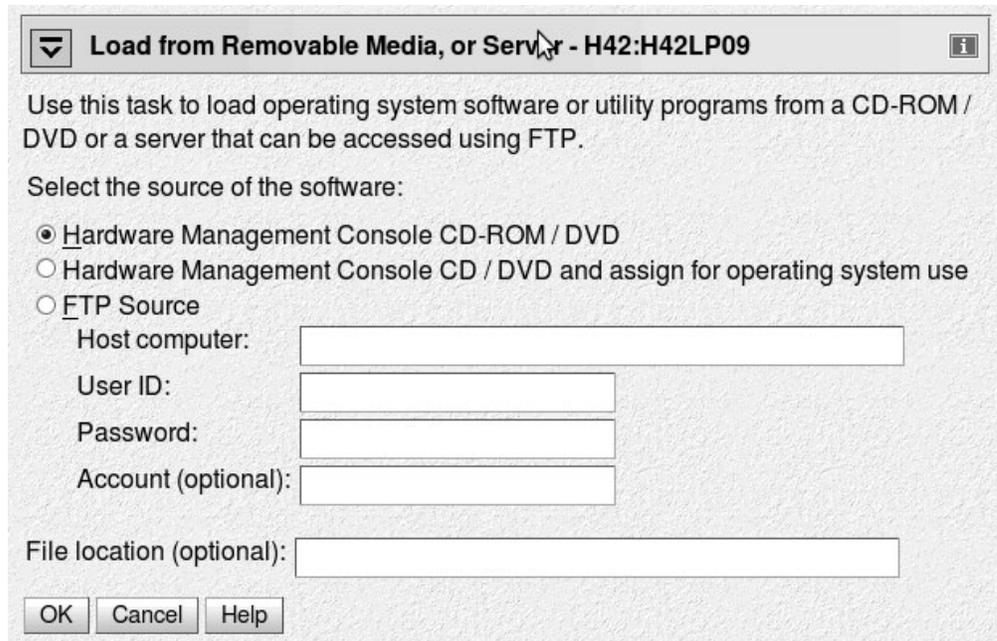

Figure 71. Load from Removable Media or Server panel
- a. Select **Hardware Management Console CD-ROM/DVD** (see Figure 71 on page 401).